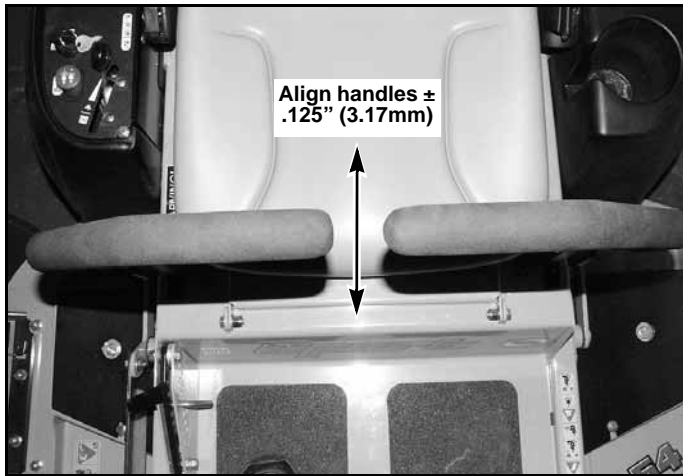

Figure 4-4
16. The steering control levers should be adjusted so that they align vertically with each other when in the neutral position (Figure 4-4). Space between ends of steering control handles to be .50" ±.25" (12.7mm ± 6.35mm). Figure 4-4